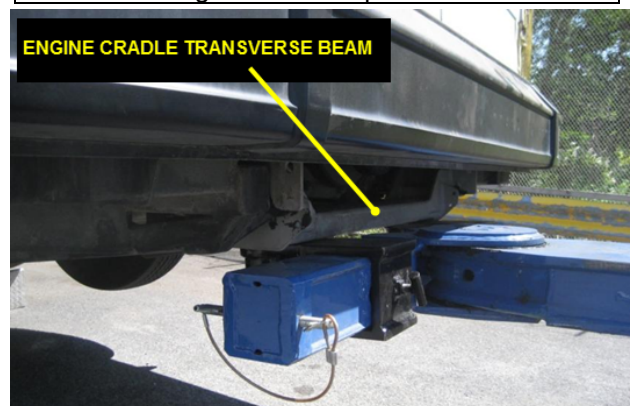

FIG.56
5. Deploy the tow truck stinger arm. Place the fork holders under the engine cradle transverse beam as shown on fig.56. Lift the tow bar until the fork holders come into contact with the cradle transverse beam.